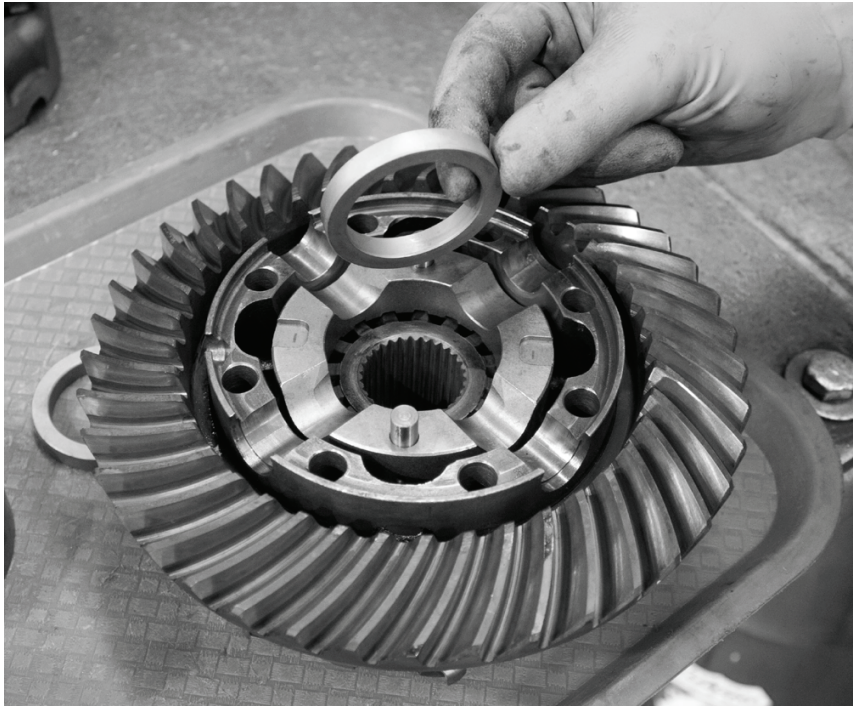

Figure 7
- Place first spacer on top of the bottom side gear. *Figure 7 & 8*